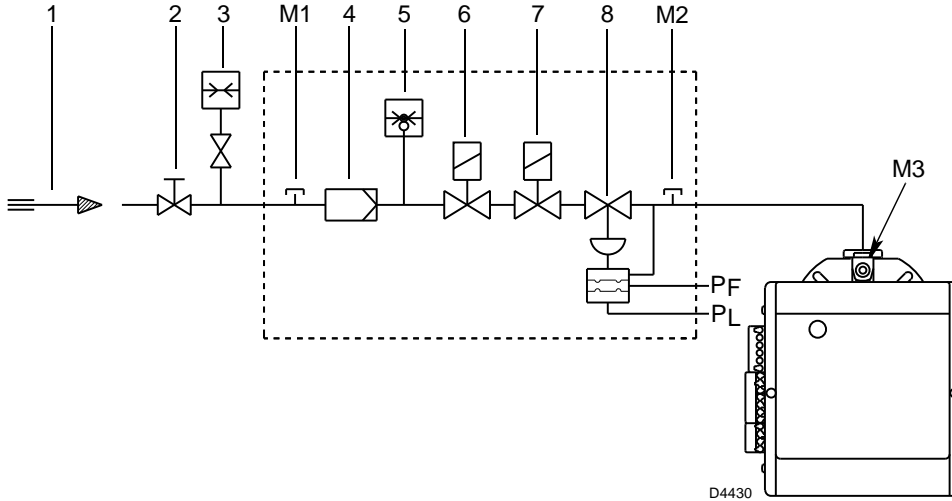

Fig. 14
Key (Fig. 14)
Gas pressure measured at test point M3)(Fig. 14), with:
- subtract the pressure in the combustion chamber from the pressure of the gas at test point M3)(Fig. 14).
$$\begin{aligned} \text{Gas pressure at test point M3)(Fig. 14)} &= 10 \text{ mbar} \\ \text{Pressure in combustion chamber} &= 2.2 \text{ mbar} \\ 10 - 2.2 &= 7.8 \text{ mbar} \end{aligned}$$
To calculate the required gas pressure at test point M3)(Fig. 14), set the maximum modulating output required from the burner operation:
- In column 1, on the right, read the pressure at the test point M3)(Fig. 14).